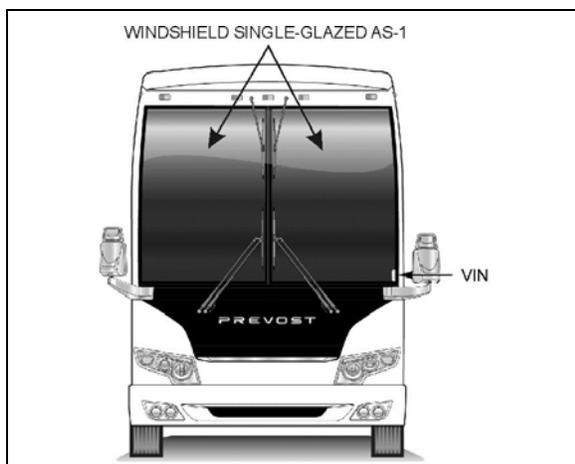

FIGURE 46: WINDSHIELD
6. Confirm that both latches are in the closed (latched) position. The upper edge of the latch opening must be aligned with upper edge of the sash opening (Figure 46)
Unless otherwise noted, body panels and doors should be aligned and centered with surrounding panels. In general, a gap of  $\frac{1}{4}$  inch (6 mm) is desirable between panels. Refer to figure 46 for specified gaps.